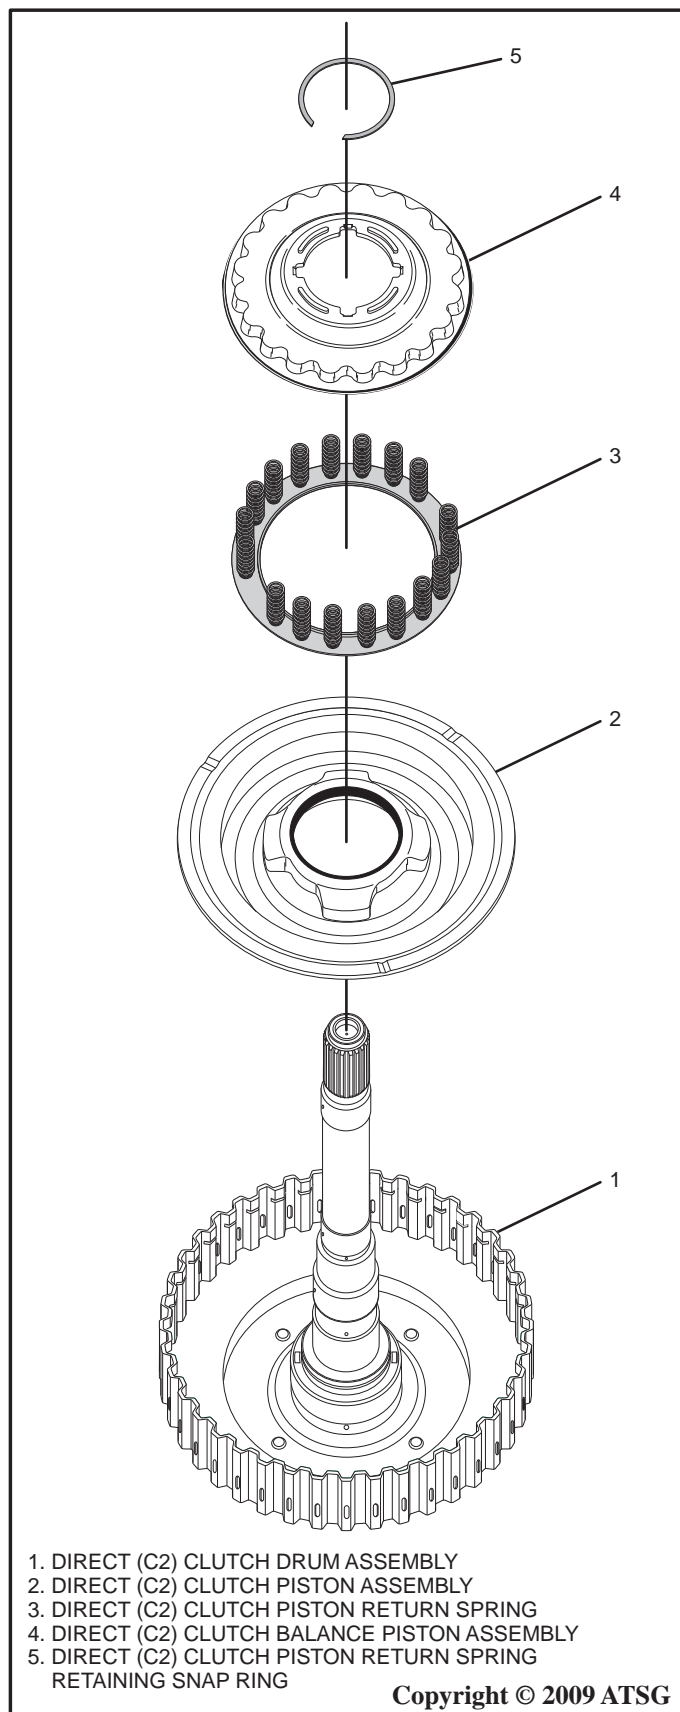

Figure 95
4. Coat the seal surface of the direct (C2) clutch piston with a small amount of Trans-Jel® and insert piston into the drum with a twisting motion as shown in Figure 95.
5. Install the direct (C2) clutch piston return spring on top of the piston as shown in Figure 95.
6. Coat the seal surface of the direct (C2) clutch balance piston with a small amount of Trans-Jel® and insert into the drum with a twisting motion as shown in Figure 95.
7. Using SST 09387-00020 or similar device on the balance piston, compress the return spring gently using a suitable press and install the retaining snap ring as shown in Figure 95